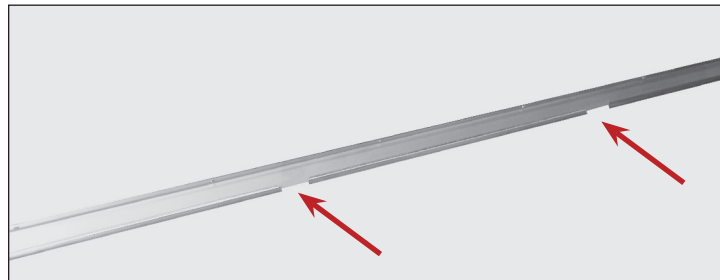

Fig. 1. Door channel openings (two-door appliances ONLY).
- Two-Door Appliances** Slide the front door so it is centered on the appliance. See figs. 1 and 2.